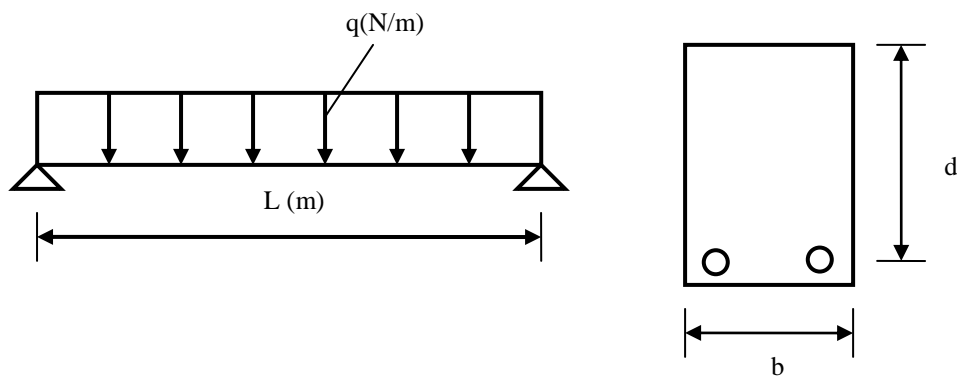

Figure 5.0
- (c) What is the difference between design moment and ultimate moment resistance (Refer to Figure 5.0)